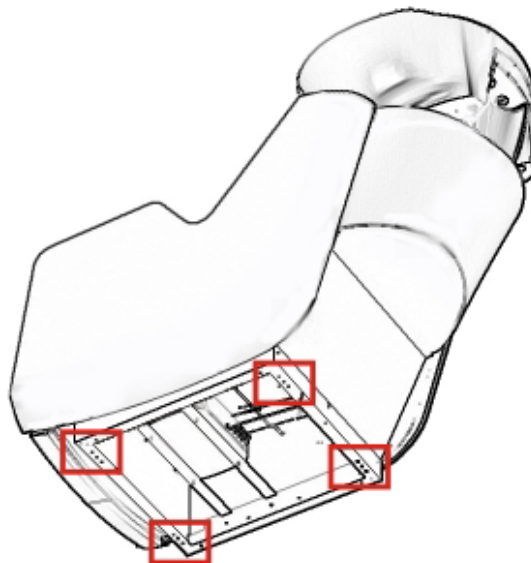

Fig.4
5) Firmly mount the structure to the floor with the appropriate anchoring blocks, or if the floor is not sufficiently compact, with a chemical anchoring agent (not provided) (fig. 4)